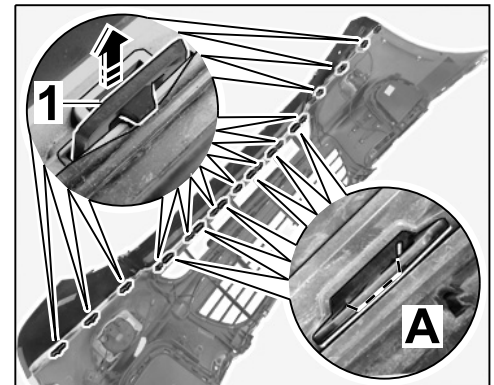

Figure 12
2.5.1 Get another mechanic to help you to position the front spoiler in the gap on the front apron and press it on evenly until the retaining lugs (⇒ *Figure 12 -Arrow-*) lock securely.